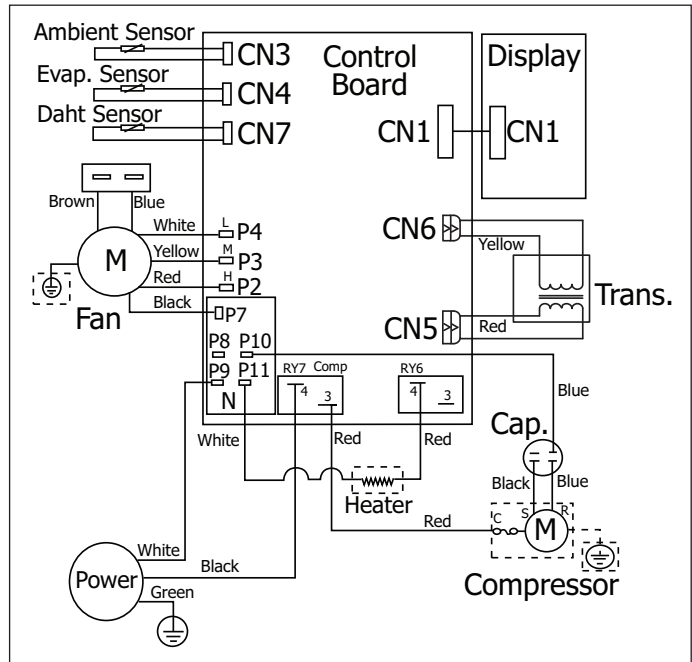

Figure 4-37.
4. Disconnect wire leads from control board leading to the transformer. (See Figure 4-37)